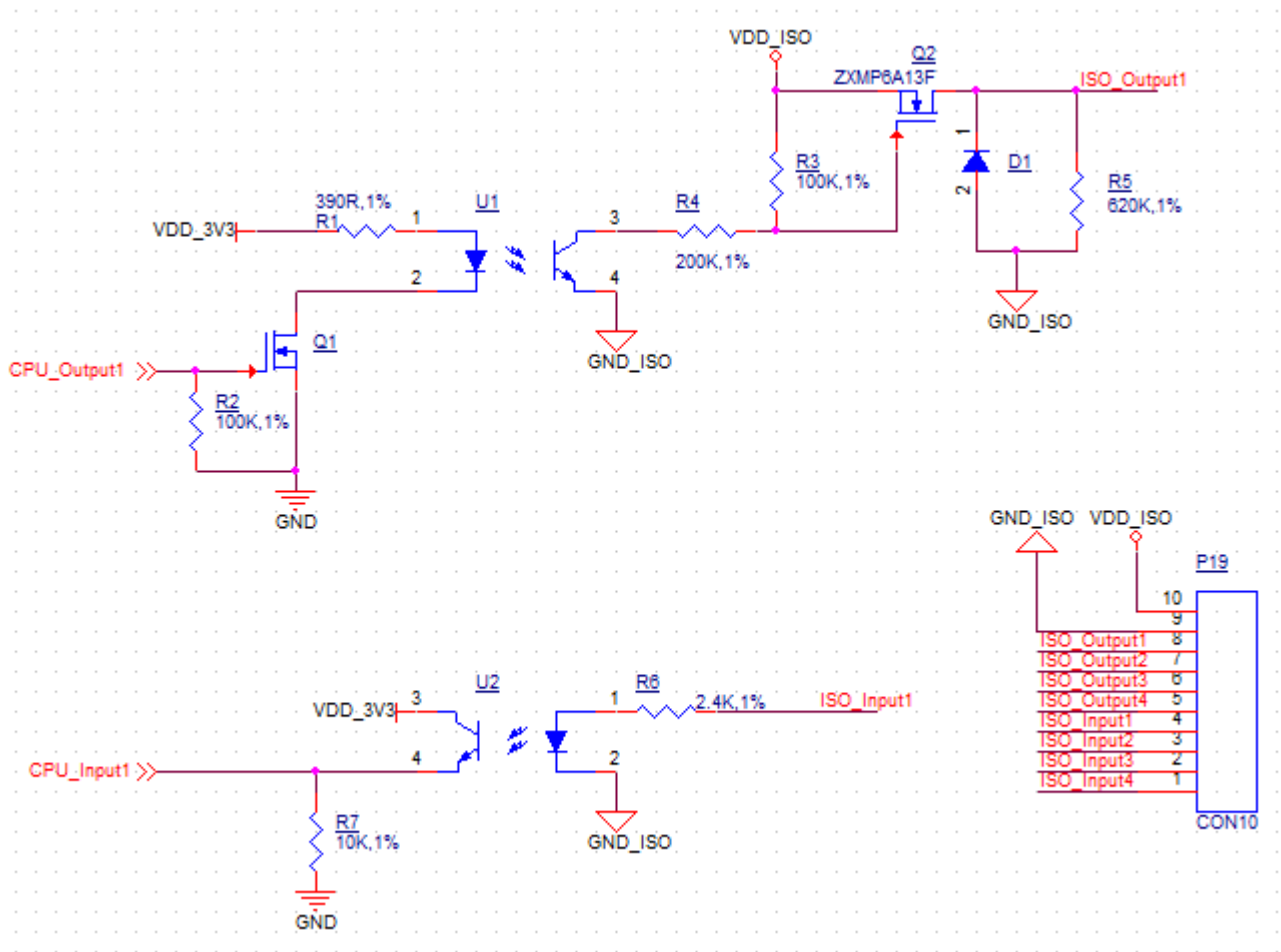

Figure 9: Isolated GPIO reduced schematic
- (1) In order to use the Isolated Output, you need to add an external Isolated Power to the VDD_ISO and GND_ISO. The power voltage should not exceed 24V;
- (2) The output current can achieve 500mA for every channel, but it also depends on the Isolated power that is connected.
- (3) In order to use the Isolated Input, you need to add a signal to the ISO_InputX and GND_ISO. A 2.4K Ω resistor, as R6 in Figure 9, has been added to limit the input current. This resistor should work well for the 5-24V input signal. If your input signal is less than 5V, please change this input